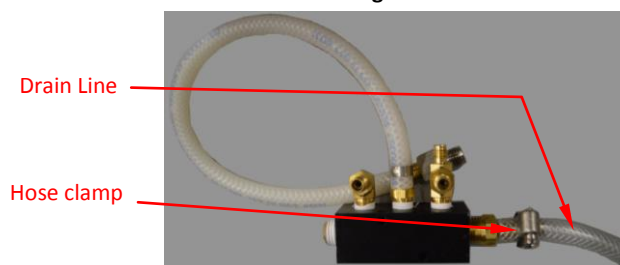

Figure 7
- b. Attach the drain line to the new X64 Drain Manifold Assembly by tightening the hose clamp using a flathead screw driver. See Figure 7.